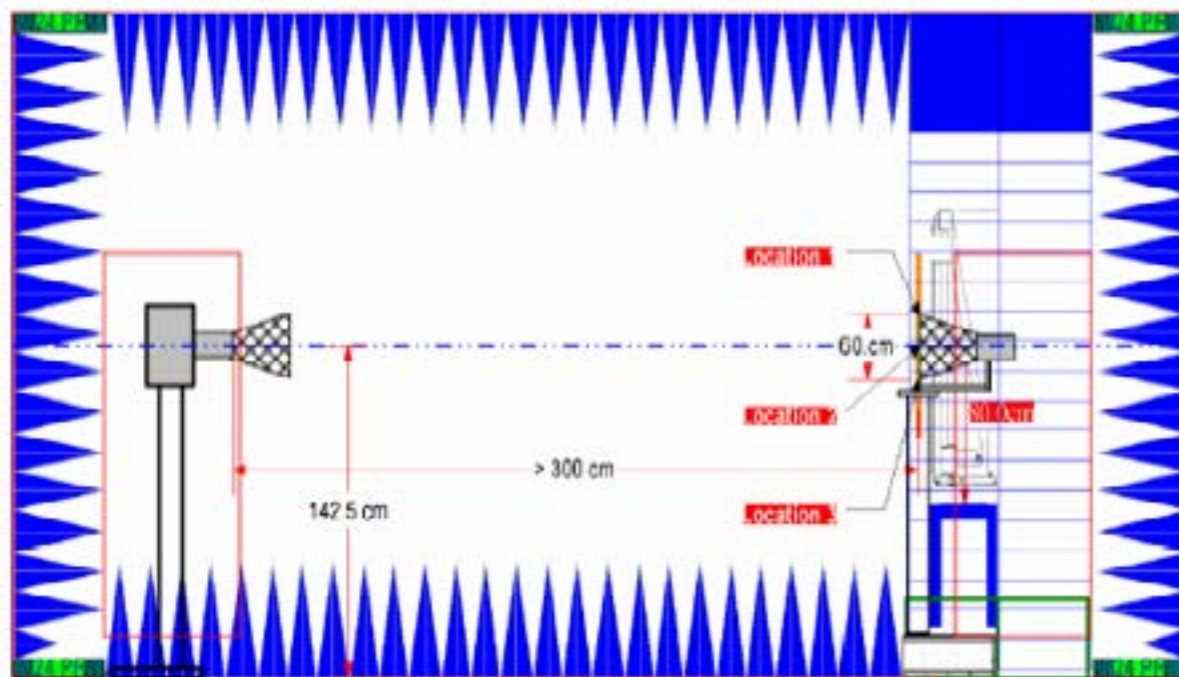

Fig. 2 The interior components of the anechoic.
- (2) Fig. 2. shows the interior components of the anechoic chamber. The antenna standard antenna as probe and antenna under test is 3M. The antenna under test is fixed on a step rotator. We can control the rotating angle for accurate or rough measurement.
- (3) While we measure the radiation patterns by rotating AUT with 360 degrees and repeat again by replacing the AUT with the standard gain antenna under test, we compare both data and using a formula to obtain the